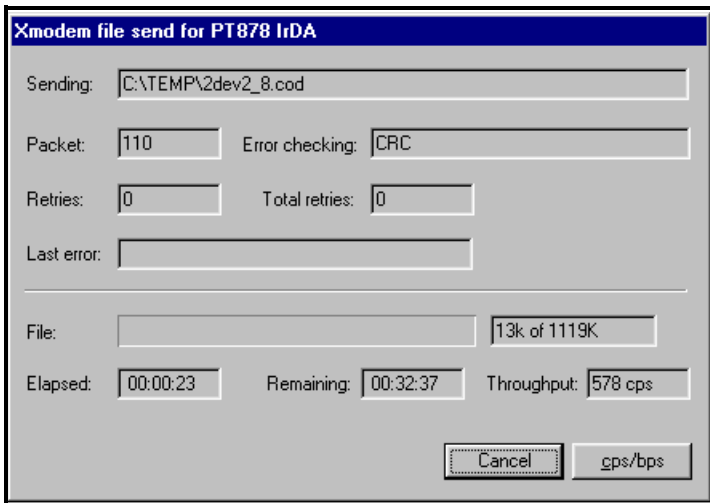

Figure 72: File Transmission Window
5. Click *Send*. For a successful transfer, the PC window appears similar to Figure 72, while the PM880 screen displays the program ID, size, load address and a count of blocks being loaded.